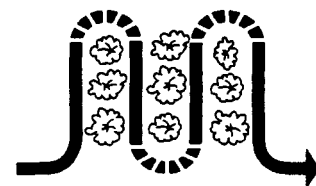

Figure 4-9
- With planning, you can allow enough room between rows to cultivate (see Figure 4-9). Leave room for the hood width, plus enough extra room for future plant growth.